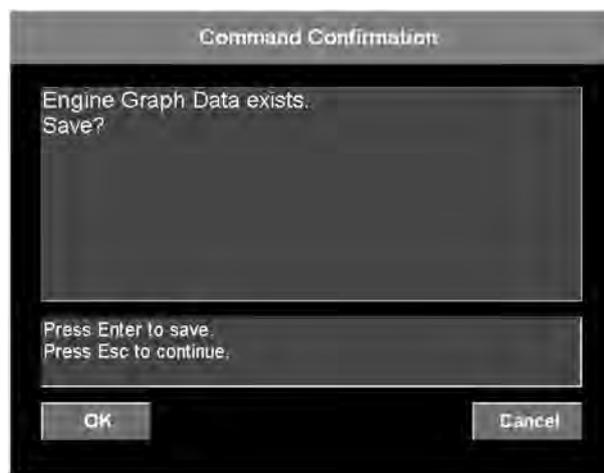

Fig. 57
- The program displays a confirmation dialog asking whether you are sure you wish to delete previously saved signal and graph data (see Fig. 57). Click the **OK** button (or press the Enter key) to save the new data (overwriting the old data). The graph window will then close.